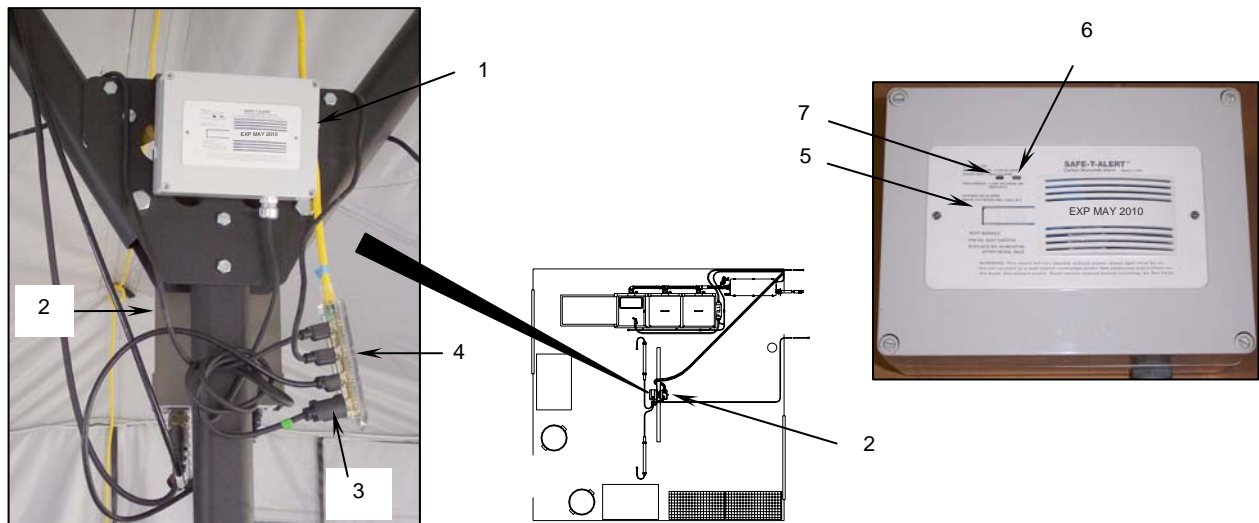

Figure 2. Installing the CO Monitor.
5. Install the carbon monoxide (CO) monitor as follows:
- a. Hang the CO monitor (**Figure 2, Item 1**) from the center pole of the tent opposite the power converter (**Figure 2, Item 2**).
- b. Plug the CO monitor power cord (**Figure 2, Item 3**) into an outlet on the end of the 100-ft extension cord (**Figure 2, Item 4**).
- c. Test the CO monitor by pressing the TEST/RESET (**Figure 2, Item 5**) button. The indicator light (**Figure 2, Item 6**) should change from green to red (**Figure 2, Item 7**) and the alarm horn (**Figure 2, Item 7**) should sound. If the test fails, troubleshoot or replace the alarm.